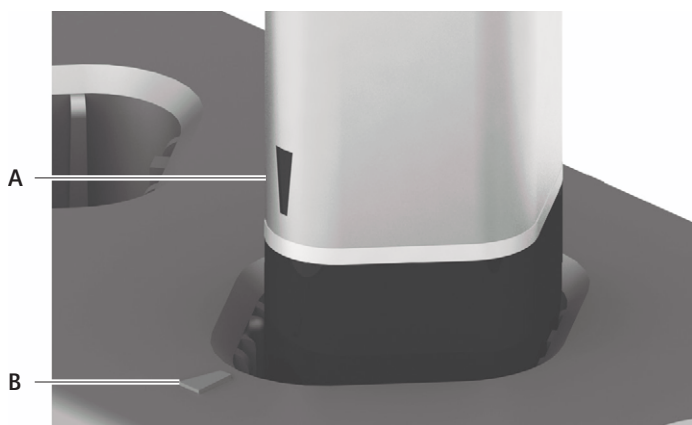

Fig. 1 Insert battery into charging bay
- Insert the battery into the charging bay with the contacts pointing downwards, so that the marking on the battery **A** corresponds with the marking on the charging bay **B**, see Fig. 1.